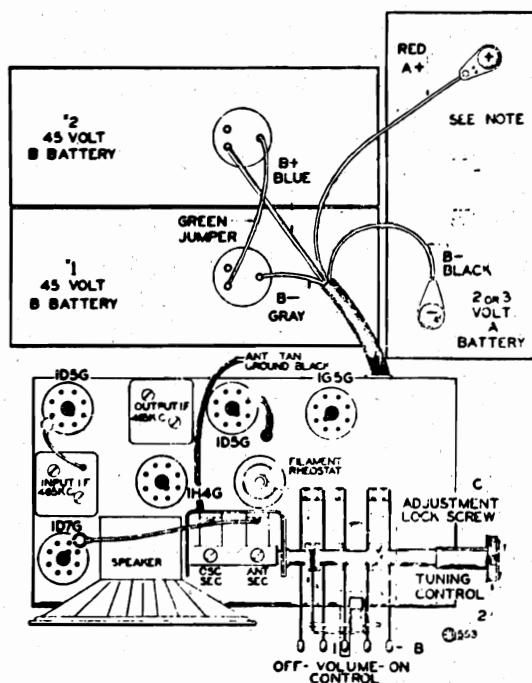

FIG. 1—TOP VIEW
First—Place the A Battery as shown in Fig. 1, (Either the 2 volt Storage A or the 3 Volt Dry A).
CAUTION: Before connecting a 3-volt dry A Battery, read the instructions which are attached to the bottom of the cabinet. **NOTE:** A special connector plug is supplied for connecting the "A" leads to a 3-volt dry "A" battery which has socket connections, (see dotted lines on "A" battery in Fig. 1).
These I.F. transformers have two adjustments, both of which are accessible from the top of chassis (see Fig. 1).
- (a) With external oscillator set at 1720 kilocycles, adjust oscillator trimmer to resonance. This adjustment is on the top of rear section of variable gang condenser. (See Fig 1).